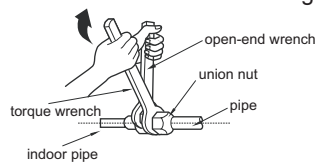

Fig.6
4. Adjust the torque force by referring to the following sheet. Place the open-end wrench on the pipe joint and place the torque wrench on the union nut. Tighten the union nut with torque wrench. (As show in Fig.6)